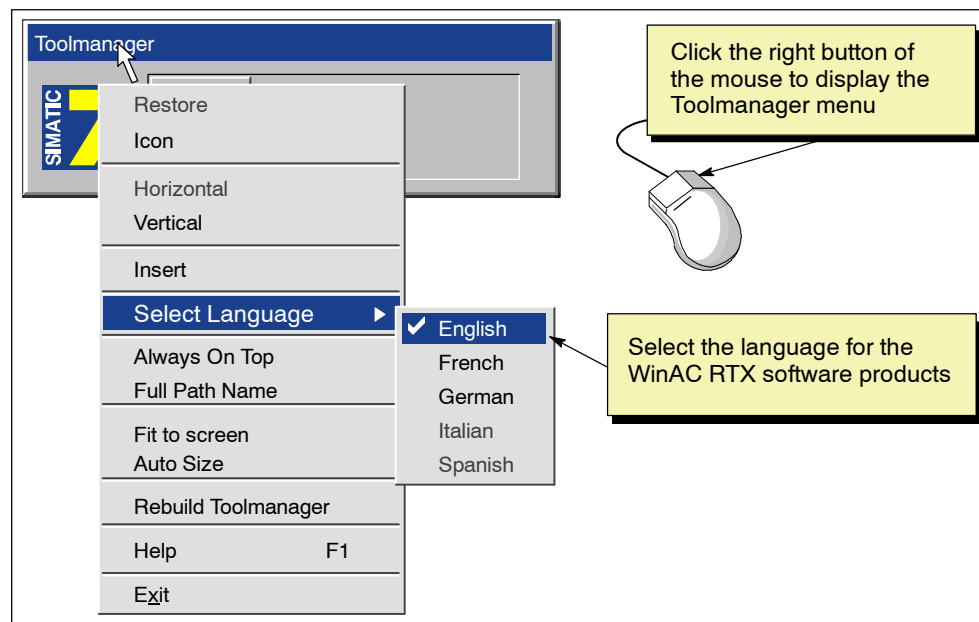

Figure 4-3 Changing the Language for WinAC RTX
2. Click the right button of the mouse to display the menu options for the Toolmanager. See Figure 4-3.
3. Select the **Select Language** menu command to display the menu for selecting the language for WinAC RTX. See Figure 4-3.